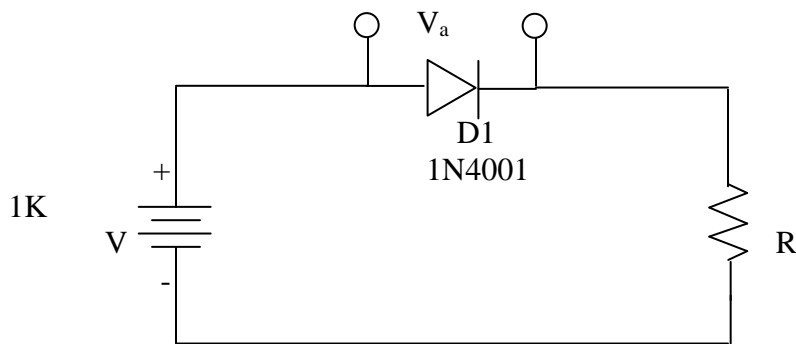

Fig.1(a)
A p-n junction diode is a two-terminal device that acts as a one-way conductor. When a diode is forward biased as shown in Fig. 1(a), current I_D flows through the diode and current is given by
When it is reverse biased as shown in Fig. 1(b), $I_D = -I_S$ (for see eqn. (2)). As it is generally in pA (pico-amp) range, in many applications this current is neglected and diode is considered open.